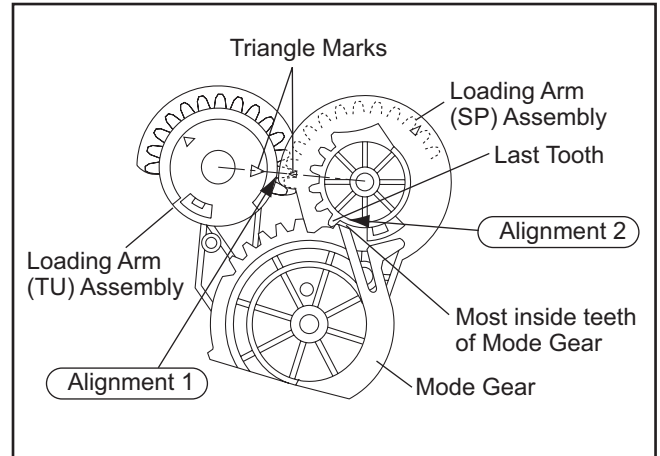

Fig.2
Install Loading Arm (SP) and (TU) Assembly so that their triangle marks point to each other as shown in Fig. 2.
Keeping the two triangles pointing at each other, install the Loading Arm (SP) Assembly so that the last tooth of the gear meets the most inside teeth of the Mode Gear. See Fig. 2.